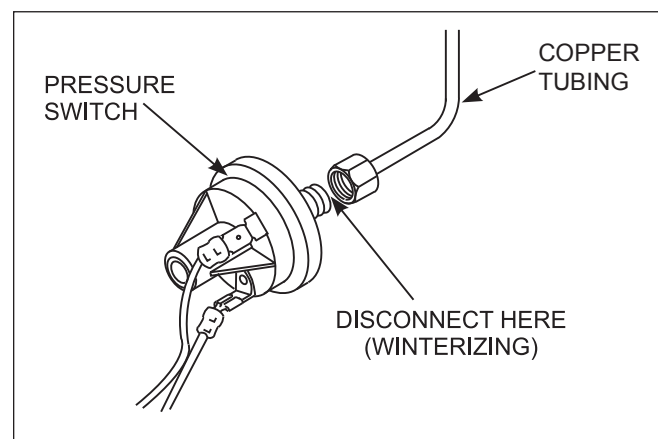

Figure 25. Pressure Switch Copper Tubing
8. Disconnect the pressure switch from the copper tubing. See Figure 25.
1. Attach the copper tubing to the pressure switch (see Figure 25).